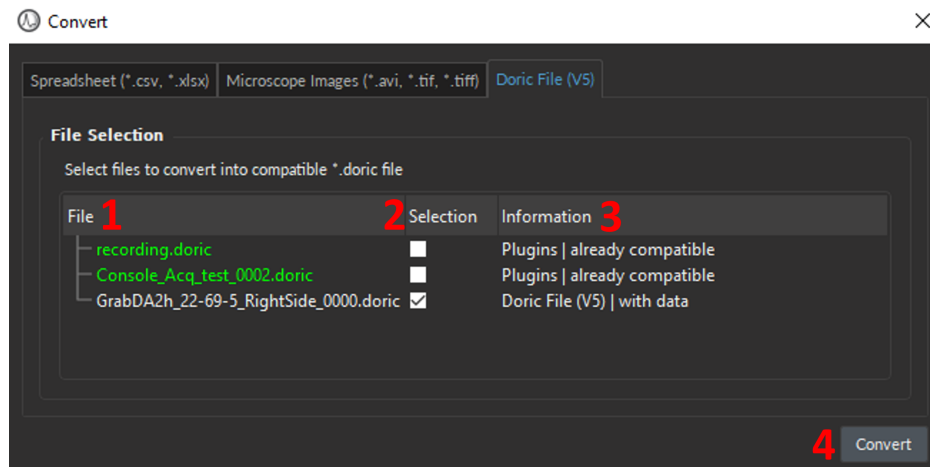
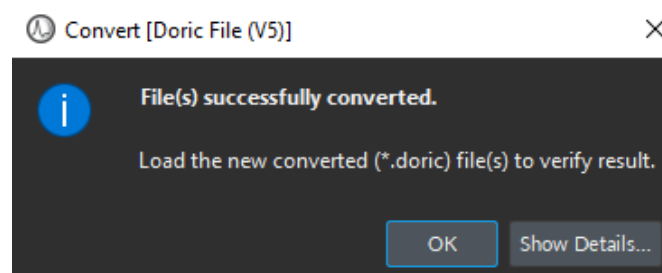

Figure 12.15: Convert Window, V5 Doric File Tab
Figure 12.16: Convert V5 Doric File, Process Complete Pop-up
To **Convert** v5 .doric files to v6, the **Doric File (V5)** tab (Fig. 12.15) includes the following parameters:
1. The **File** column (Fig. 12.15, 1) lists all of the .doric files contained within the **File Manager** (Fig. ??, 2). If the filename(s) are in green, then the folder is already in v6 .doric format and cannot be converted again. If the filename is in gray, it isn't in v6 format. However, if the filename is in red, then the data cannot be converted since it is most likely a V5 configuration file.
2. The **Selection** column (Fig. 12.15, 2) contains a checkbox where multiple files can be selected simultaneously for conversion. *NOTE THAT* Selecting a green file will give an error message.
3. The **Information** column (Fig. 12.15, 3) details whether a file was already converted. This section can even detect whether a V5 Doric File contains data or is a configuration file.
4. The **Convert** button (Fig. 12.15, 4) initiates the conversion process. Converted files will be saved in the same directory/folder as the original file, named as *FILENAME_converted_mmddyyyy*. A **Process Complete** pop-up window (Fig. 12.16) will be displayed if the conversion was successful. To view the file in the **File Manager** you must first load it (See Section 12.2).